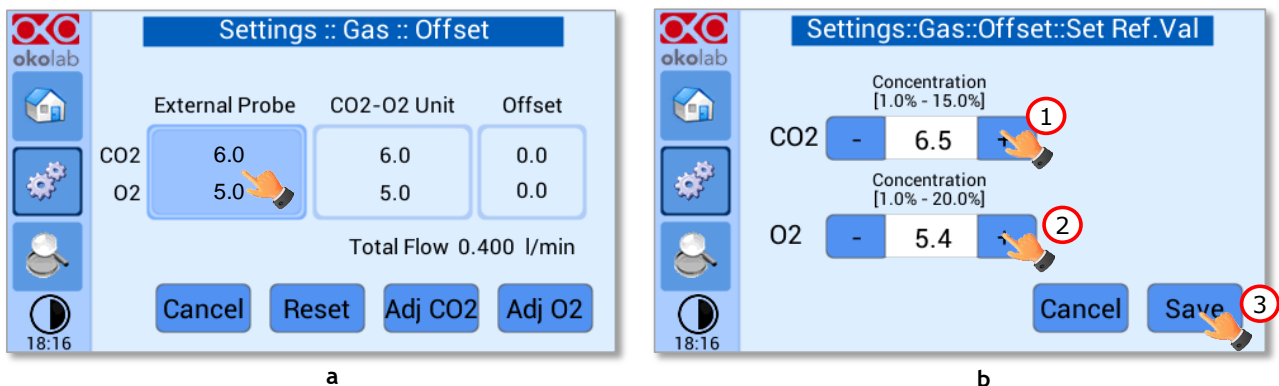

Figure 33. Manual Calibration (a – b).
6. Press on the *External Probe* Tab (as shown in Figure 33 a) in *Offset* page on the OKO-TOUCH display. The Figure 33 b appears.
7. Press on +/- icons to input the CO₂ (1 in Figure 33 b) and O₂ (2 in Figure 33 b) levels read by LEO (i.e. 6.5% for CO₂ and 5.4% for O₂), then press *Save* (3 in Figure 33 b).